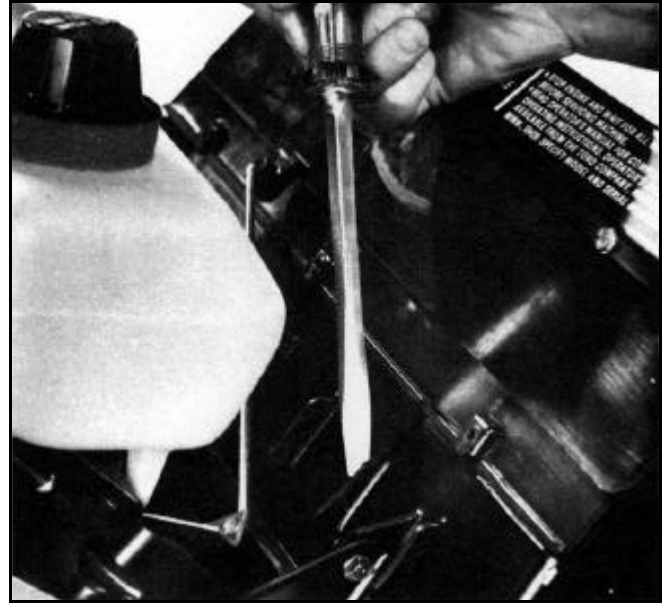

Figure 175
3. Next, to remove the vane from the snowthrower, using a screwdriver, gently tuck the vane in the small slot in the shrouding. At the same time, apply a slight downward pressure on the vane (Figure 175).